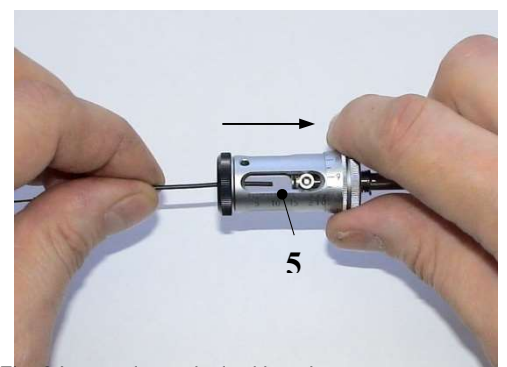

Fig. 8 Insert wire to desired length
- Pull the stripping head **(5)** backwards and insert the cable up to the desired length using the scale. Holding this position, slowly release the stripping head **(5)**. **(Fig. 8)**.